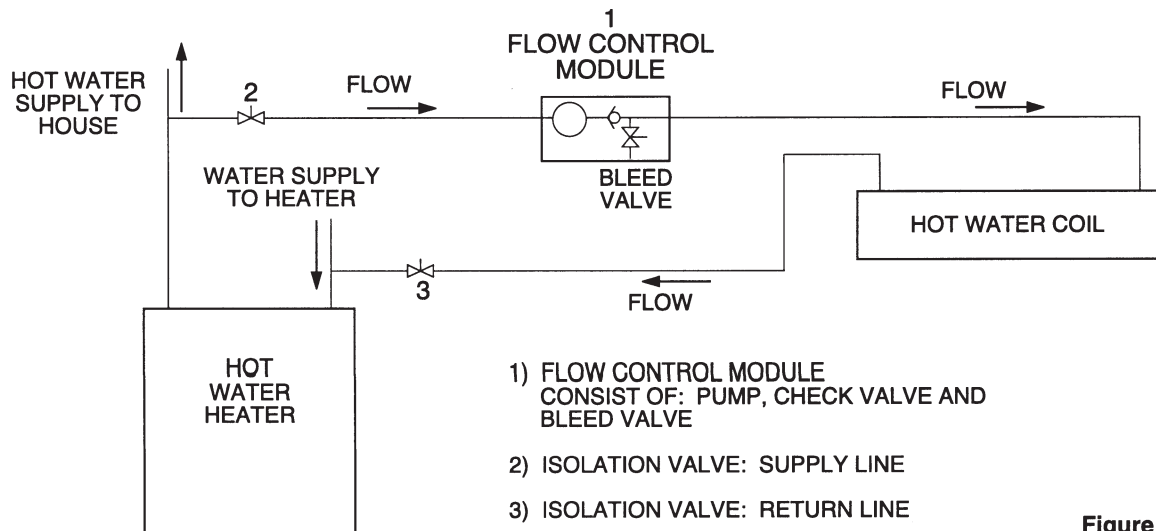

Figure 7
**Note:** It may require purging several gallons of water so either have a bucket available or connect a garden hose to the purge valve and route to a drain. Close valve number 2 and open valve number 3 (See figure 7). Next, open the air purge valve located either on the flow control module or inside the air handler. When all the air is purged, close valve number 3 and open valve number 2. When all the air is purged, open both valves and close the air purge valve.